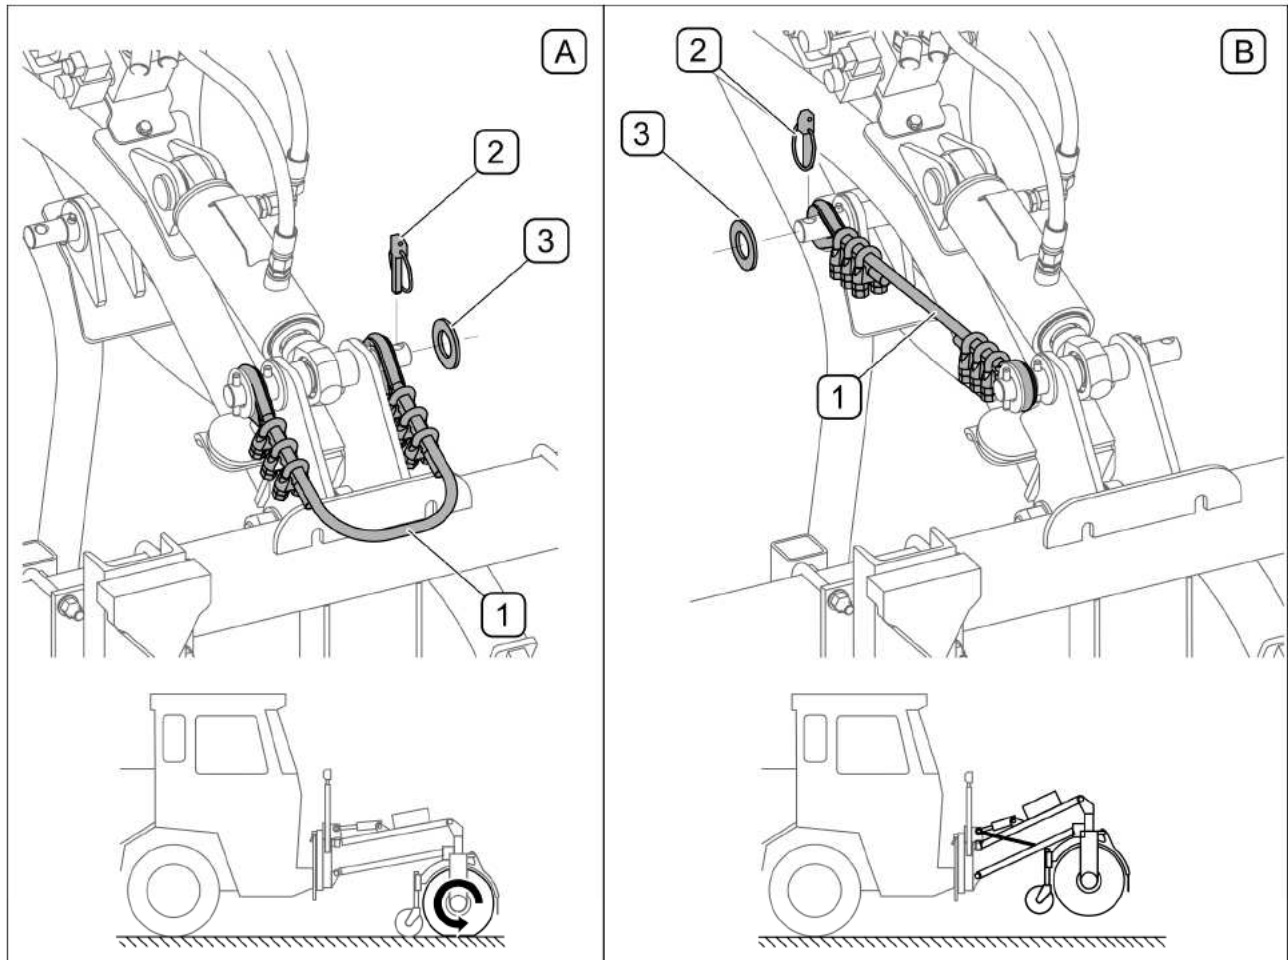

FIG. 4.16 **Installing transport lock**
- When transporting a raised machine, protect the linkage against falling or accidental dropping with transport lock (FIG. 4.16).
In order to secure the machine's linkage in transport position and protect it against falling or accidental dropping (FIG. 4.16) :